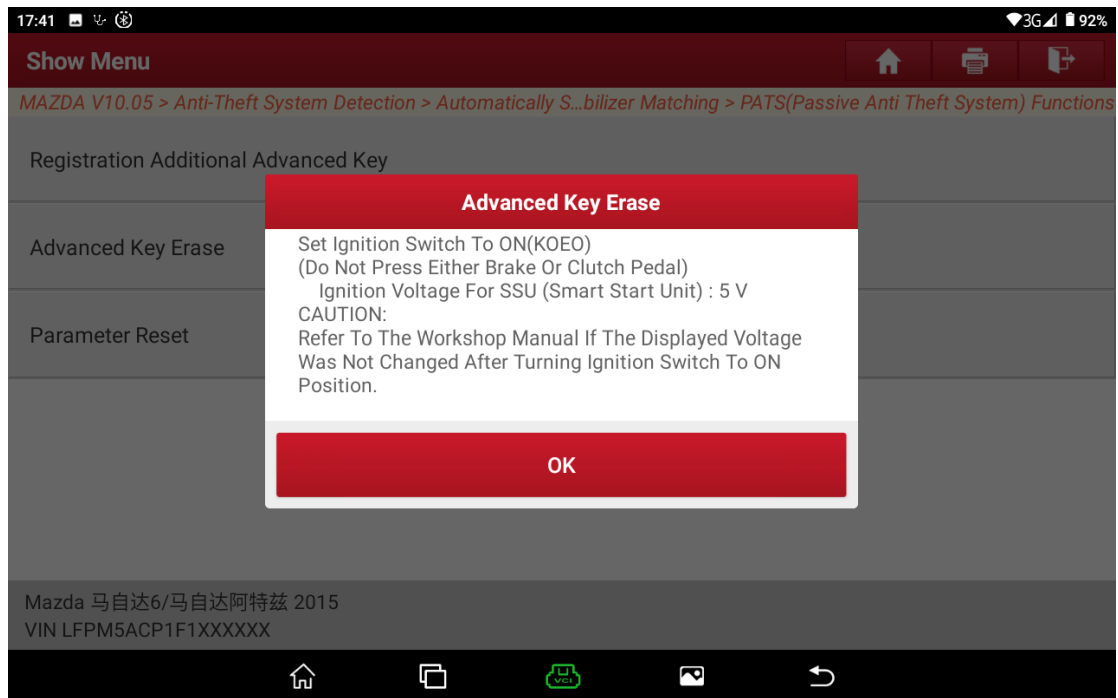

Figure 21
19. The execution conditions are displayed. See Figure 21.